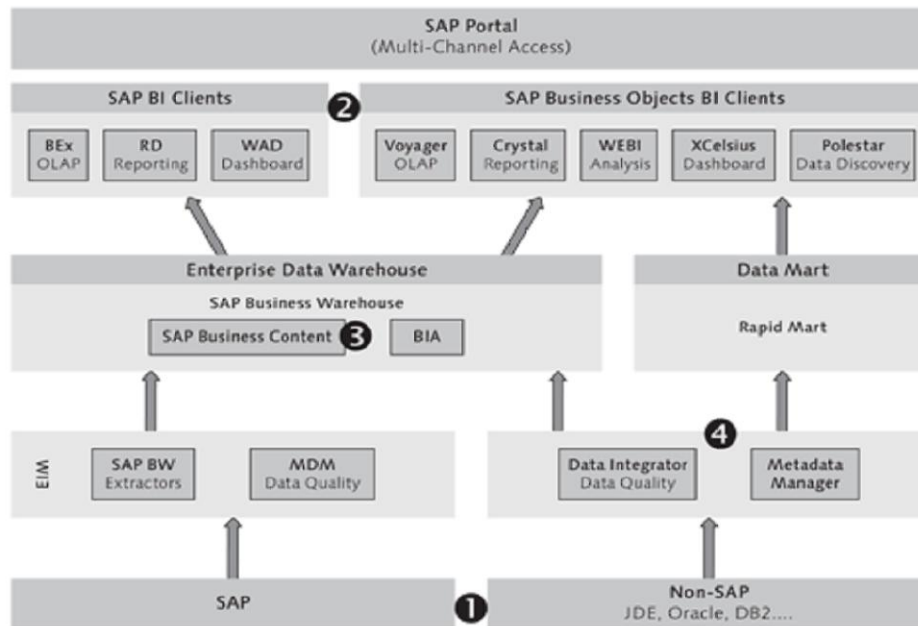

Figure 2.2 SAP NetWeaver BW Architecture and Positioning
- ▶ Tightly integrated and reliable data acquisition from all applications and business processes in the SAP Business Suite, including the ability to acquire data from heterogeneous sources (❶ of Figure 2.2).
- ▶ Business-driven models that help in rapid implementation through best practices and rich predefined business content across most industry and business processes (③ of Figure 2.2).
- ▶ State-of-the-art lifecycle management functionality at three levels (④ of Figure 2.2):